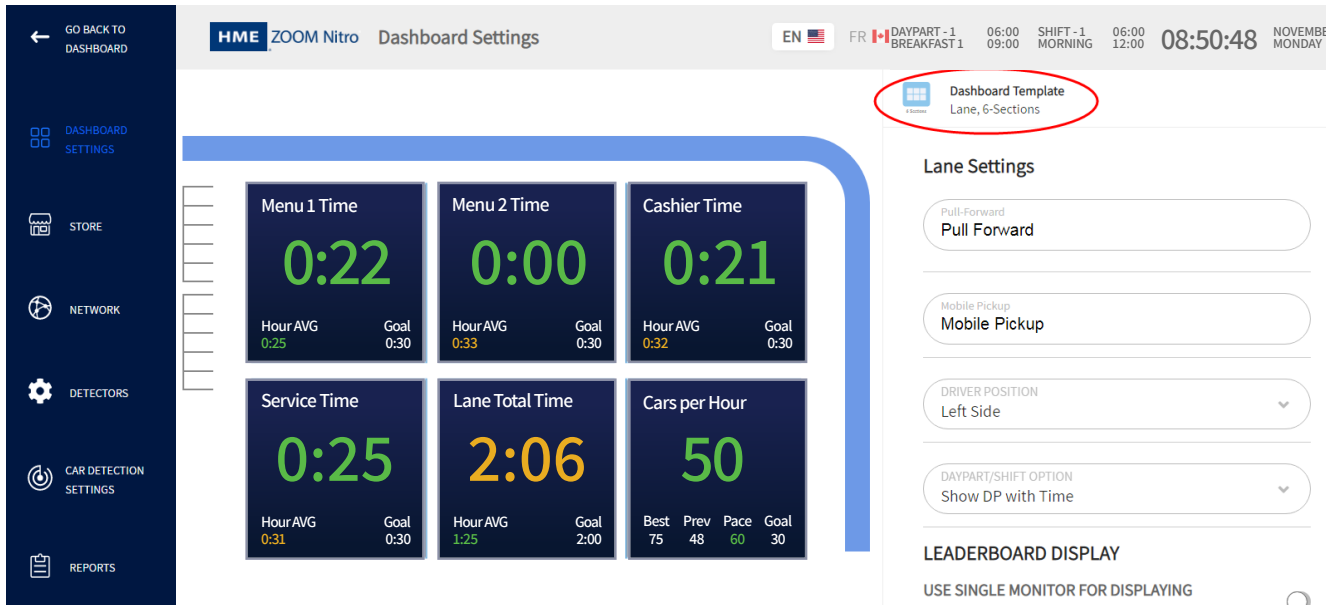

Fig. 3.1
**Why is it needed?** You may wish to configure and customize the look and feel of your Dashboard. This includes choosing what measured events you would like to display on your Dashboard. Click on any Data Section to open it for editing. The editable fields for the Data Section are displayed on the right side of the screen. For example, the Lane graphic in Fig. 3.1 was clicked so the **Lane Settings** fields on the right are available for editing.
**Screen details explained:** Fig. 3.1 shows a Single-Lane layout, Fig. 3.2 shows how a typical Y-Lane layout is displayed, while Fig. 3.3 shows what a Dual-Lane layout looks like.
To adjust the layout of the Dashboard screen, click on the  icon found in the upper portion of the screen or the adjacent down arrow icon  next to it (see Fig. 3.1).